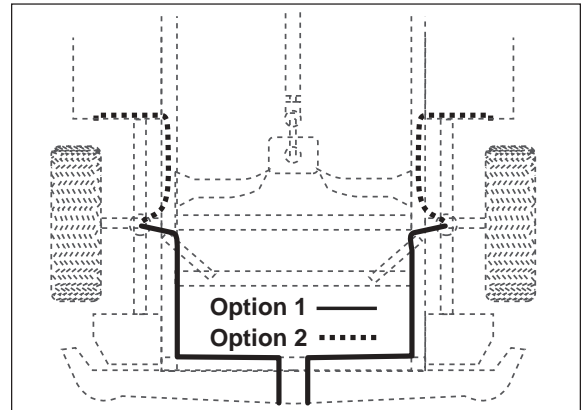

Figure 7
- a. Select a location for the inflation valves in the plow frame or front bumper, insuring that each valve will be protected and accessible with an air hose (Figure 7).